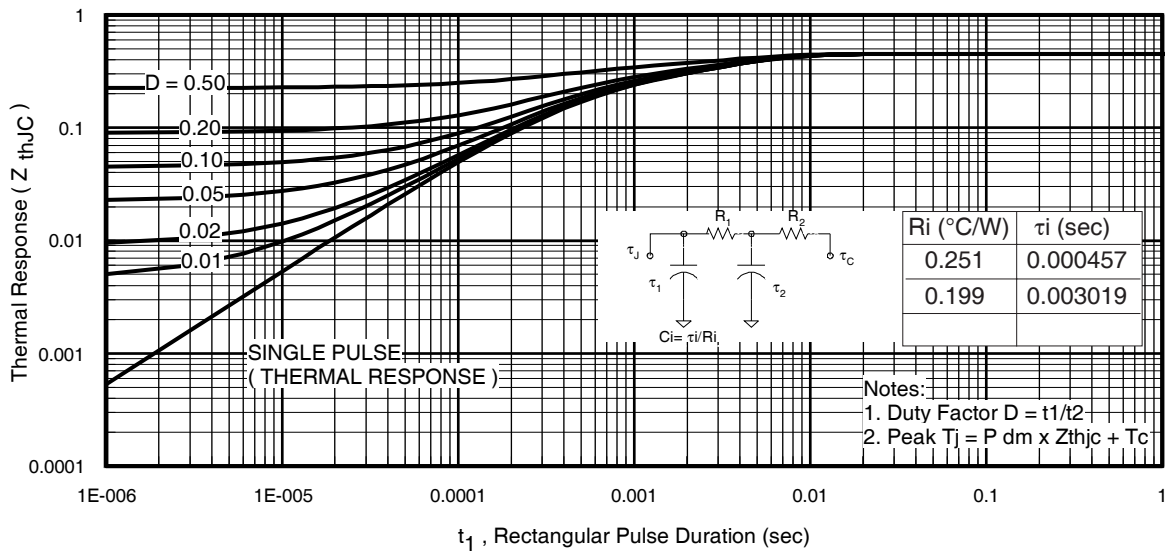
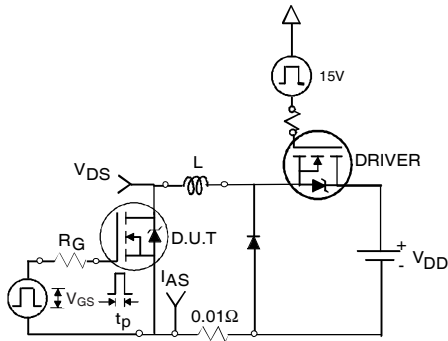

Fig 11. Maximum Effective Transient Thermal Impedance, Junction-to-Case
Fig 12a. Unclamped Inductive Test Circuit
| I_{AR} | Avalanche Current ④ | See Fig.12a,12b,15,16 | A |
- ① Repetitive rating; pulse width limited by max. junction temperature. (See fig. 11).
- ② Limited by T_{Jmax}, starting T_J = 25°C, L = 0.11mH, R_G = 25Ω, I_{AS} = 75A, V_{GS} = 10V. Part not recommended for use above this value.
- ③ I_{SD} ≤ 75A, di/dt ≤ 340A/μs, V_{DD} ≤ V_{(BR)DSS}, T_J ≤ 175°C.
- ④ Pulse width ≤ 1.0ms; duty cycle ≤ 2%.
- ⑤ C_{oss eff.} is a fixed capacitance that gives the same charging time as C_{oss} while V_{DS} is rising from 0 to 80% V_{DSS}.
- ⑥ Limited by T_{Jmax}, see Fig.12a, 12b, 15, 16 for typical repetitive avalanche performance.
- ⑦ This value determined from sample failure population. 100% tested to this value in production.
- ⑧ This is applied to D²Pak, when mounted on 1" square PCB (FR-4 or G-10 Material). For recommended footprint and soldering techniques refer to application note #AN-994.
- ⑨ R_{θj} is measured at T_J of approximately 90°C.
3. Equation below based on circuit and waveforms shown in Figures 12a, 12b.
$Z_{thJC}(D, t_{av})$ = Transient thermal resistance, see figure 11)